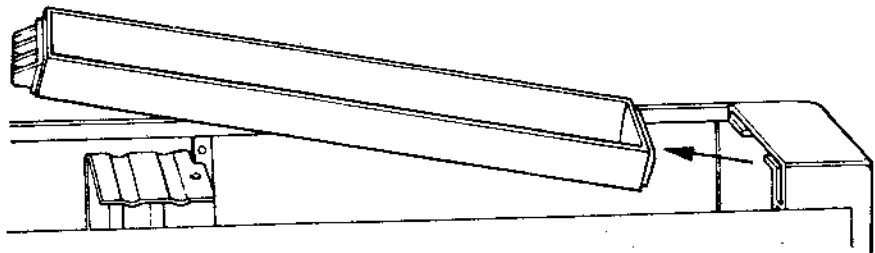

Fig. 26
7. To remove the Side Panel (R), slide it to the left, as indicated in Fig. 26, below.